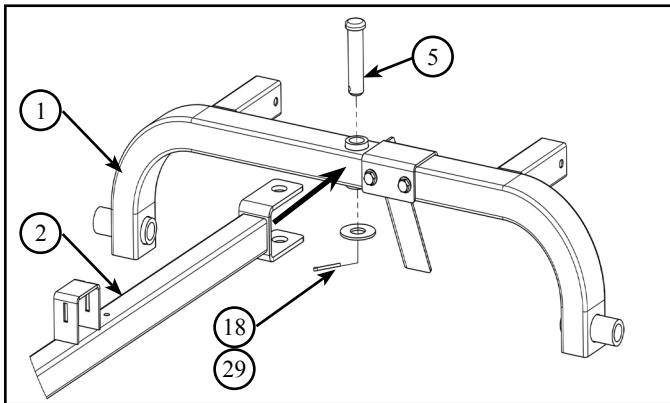

Figure 3.6 - Tow Bar/Axle Frame
1. Slide the tow bar (2) onto axle frame (1), align with pivot hole. *Refer to Figure 3.6*
2. Insert pivot pin (5) through the top of the tow bar and axle frame. *Refer to Figure 3.6*
3. Secure pivot pin with washer (18) and cotterpin (29), use pliers to bend the cotter pin ends to secure. *Refer to Figure 3.6*